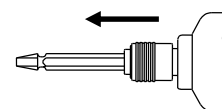

Figure 1
- For UL-D series fitted with quick change chuck, pull bit sleeve and insert or remove 1/4" hexagon bit (see figure 1). See 'technical specifications' for drive shank sizes.